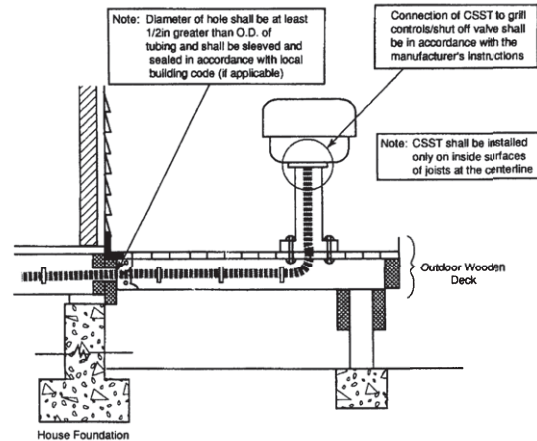

Figure: 4-38
2. Permanently mounted grills located on decks shall be connected with the **TracPipe® CounterStrike®** system as shown in Figure: 4-38 and in accordance with this guide. The outdoor portion of the piping shall be supported against the side of any of the inside deck joists. If the elevation of the deck is below the top of the foundation, any exposed piping shall be protected using water-tight non-metallic conduit.
3. Permanently mounted lights located on decks shall be connected to the piping system the same as permanently mounted grills shown in Figure: 4-38 and in accordance with the manufacturer's instructions.